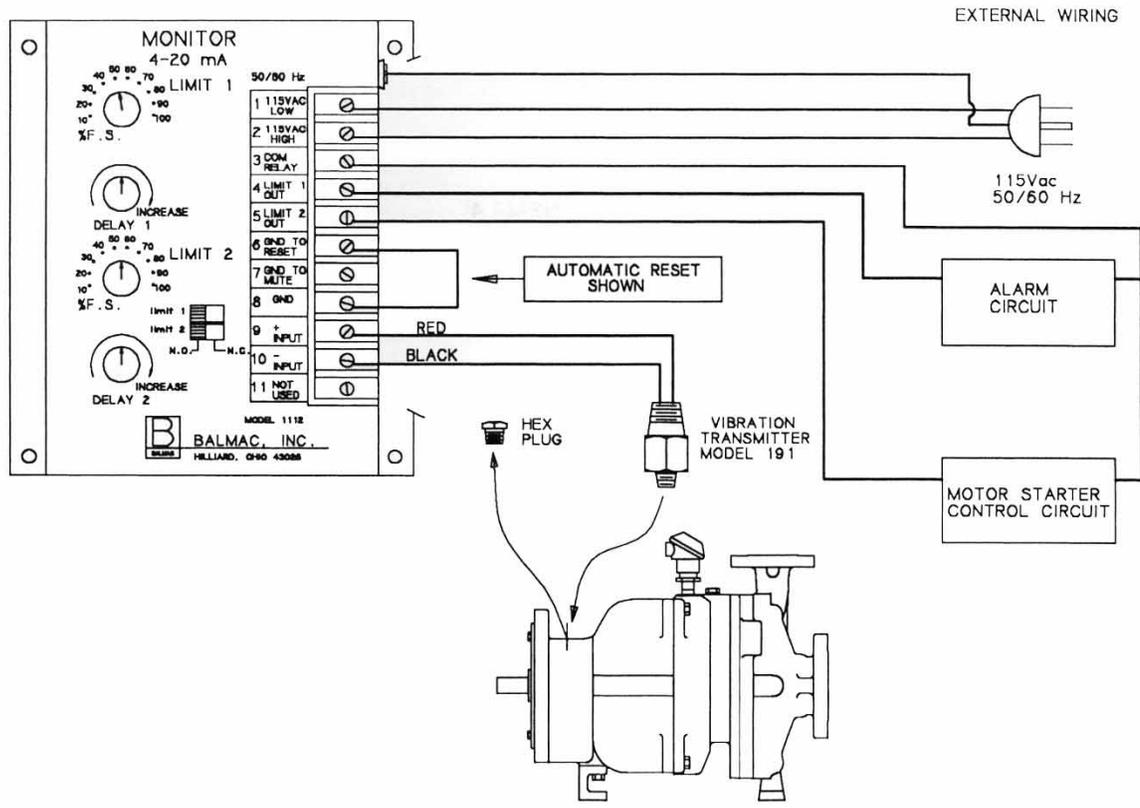

Figure 3
1. After pump installation is complete, thread ½" NPT end of transmitter into hole provided in pump bearing frame (Fig. 3). Tighten until snug.
4. Wire transmitter to monitor (Fig. 3).
5. Wire monitor to alarm circuit (Fig. 3).
6. Wire monitor to motor starter circuit (Fig. 3).
7. Wire rest for either automatic (Fig. 3) or remote (See Balmac, Inc. instruction).
9. Wire monitor to 120 VAC source (Fig. 3)